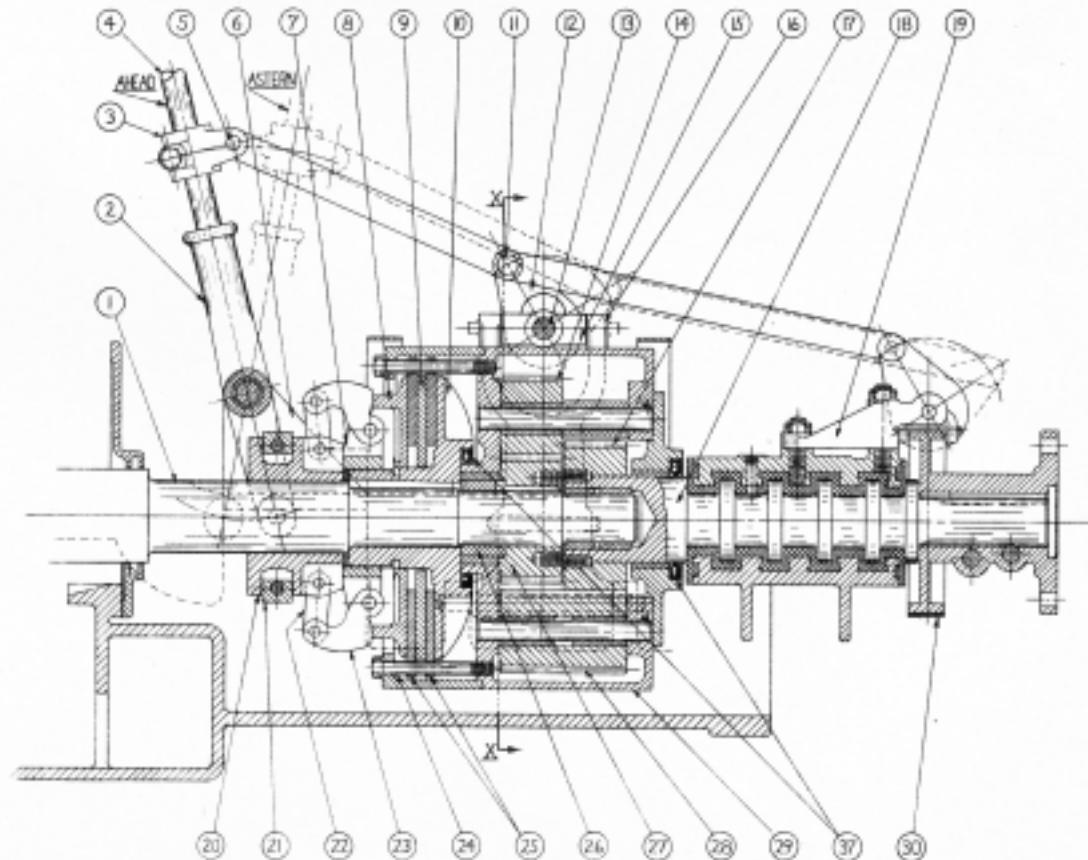
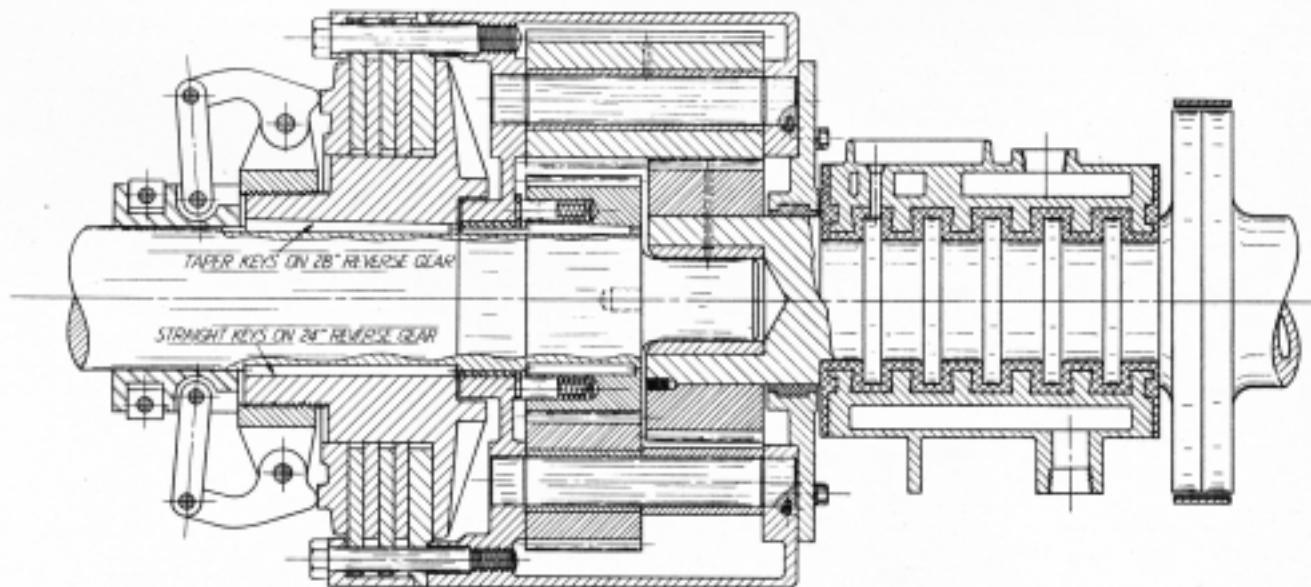

FIG. S-1
FIG. S-4
The gear is made up of a planetary transmission, a disc clutch, and two brakes, operating on the drum of the transmission and on the propeller shaft. The resulting drive permits complete control of the propeller shaft by means of the clutch control mechanism. Its operation is described under Paragraph 6. The reverse gear is closely associated with the thrust bearing, and both units are shown in the illustrations and included in the following description. The different size gears are quite similar in design and the description applies to all of them with the exception of certain differences that are mentioned in the text. Fig. S-1 and Fig. S-2 show longitudinal and transverse sections through the 14" gear, Fig. S-3 illustrates the design of the 19" and 21" gears and Fig. S-4 the 24" and 28" gears. The
bearing. The construction differences may be clearly seen by a comparison of Fig. S-1, Fig. S-3 and Fig. S-4.
The 24" and 28" gears are provided with thrust rings, shown in Fig. S-4. Four springs acting on this ring push the drum forward when the clutch is disengaged, holding the clutch plates free so that they do not drag. In the 19" and 21" gears similar springs shown in Fig. S-3, work between the plates to hold them apart. No springs are used in the 14" gear. These springs should be replaced when overhauling if they are broken.
The plate clutch acts between the crankshaft and the planetary transmission drum. Referring to Fig. S-1 the clutch driving hub (10) is keyed and pressed on the after end of the crankshaft, just forward of the crankshaft drive gear. Crowder collar (7) is screwed and clamped to the end of the clutch driving hub and a square hub on the latter engages the driving plates (8) and (9). The driven plates (25) are connected to transmission drum (29) by capscrews (24) which engage holes in the plates and also retain the clutch cover to the drum. Four floating clutch plates - two drive and two driven - are used on the 14", 19", and 21" gears, and five are used on the 24" and 28" gears. (On earlier engines only three floating plates were used on the large gears.)
The clutch is engaged or disengaged by means of shifter cone (20) (See Fig. S-1) which slides fore and aft on the crankshaft and to which links operating the crowders (23) are pinned. When the clutch is engaged the cone is aft, bearing against crowder collar (7). In this position the center line of links (22) are inclined slightly forward. In other words the pins connecting the links to the cone have been moved in past center, so that the crowding force tends to hold the cone aft,
A brake band (30) (See Fig. S-1) is used for the propeller shaft brake, wrapped around the drum on the shaft coupling. It is supported by a bracket (19) bolted to the top of the thrust bearing cap, and is operated by a link from the gear drum brake mechanism. A rotating crowder cam is used on most of the designs, but in some cases a sliding wedge is used. In either construction the cam or wedge design is such that the brake is applied and released at the desired points in the operating cycle. Instructions for adjusting and servicing the brakes are given in Paragraph 9 (c).
On the 14" and 28" gear where the clutch hubs and crankshaft gears are held by taper keys (and also on some of the older designs where taper keys were formerly used), new keys must be fitted if the parts are replaced. The keys must be fitted individually, pressing each piece on the shaft in turn, fitting its key, removing it, and then proceeding with the next piece. On the 14" gear, clutch hub (10) (See Fig. S-1) must be pressed on the shaft without shifter cone (20) being in place. The taper key is driven in and marked at the end of the hub. The hub is then pulled and the key cut off where marked. The crankshaft gear is then pressed on to its final location, allowing exactly the correct space behind it for the clutch hub and spacer (26). The key is fitted and driven in and the end marked, leaving sufficient projection to engage the notch in the end of the spacer. The parts may then be finally assembled on the shaft, pressing the clutch hub and gear home on their respective keys. The end of the key for the clutch hub must be securely blocked to prevent its backing away as the hub is pressed against it. Substantially the same procedure is followed on the 28" gear, the difference being that spacer (26) is not used. (See Fig. S-4.) The key for the gear is allowed to extend along the shaft to the clutch hub, and the extension is filed down to the contour of the shaft. This is necessary to prevent oil leakage along the shaft. The keys must be fitted for each part individually prior to the final assembly, as described above for the 14" gear.
Referring to Fig. S-1 clamp (3) securing the brake operating link to the clutch control lever is adjustable on the lever, and should be set so that the brakes take up at the proper time in the control cycle. Use care however that this clamp is not raised so high on the lever that the linkage will buckle, that is so that pin (11) will drop down into line with pins (5) and (13) and will then be forced down rather than up when the clutch is thrown out. If this occurs the mechanism will jam and it will be impossible to release the clutch. This condition will be approached gradually as the plates wear, and if not watched for may occur when least expected.